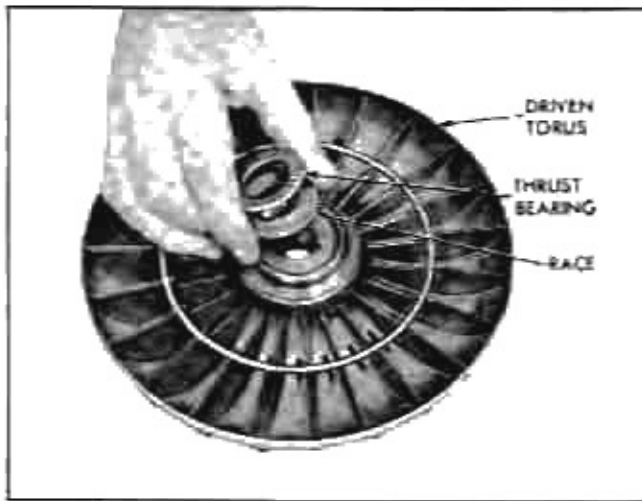

Fig. 120 Installing Thrust Bearing in Driven Torus
6. Install flanged race, flange up into driven torus (Fig. 120).